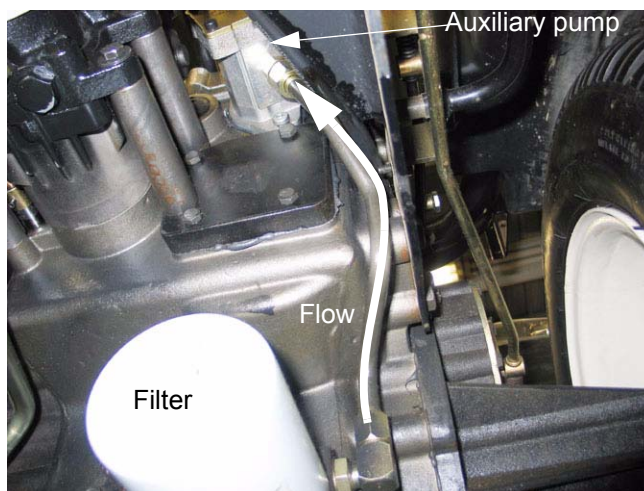

Figure 1.12
1.12. Through the pick-up tube from the transmission sump and filter, to the auxiliary pump. See Figure 1.12.
1.14. The steering unit distributes pressure to the steering cylinder according to the position of the steering wheel. On Sauer pumps this involves the ports labeled “L” and “R”. See Figure 1.12.